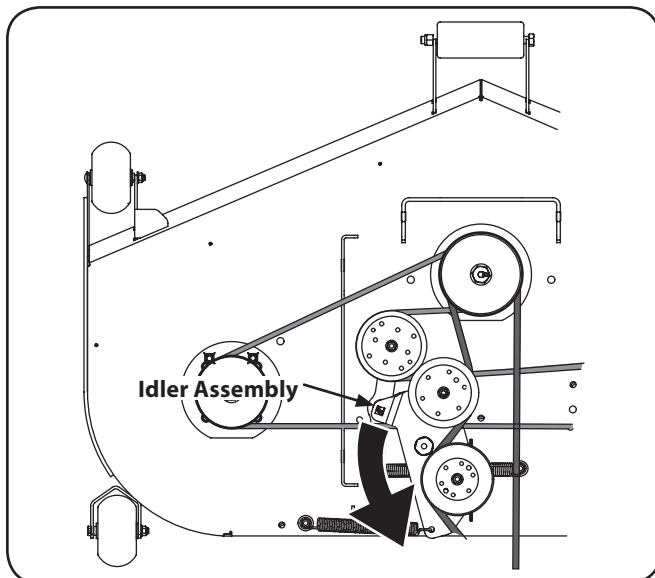
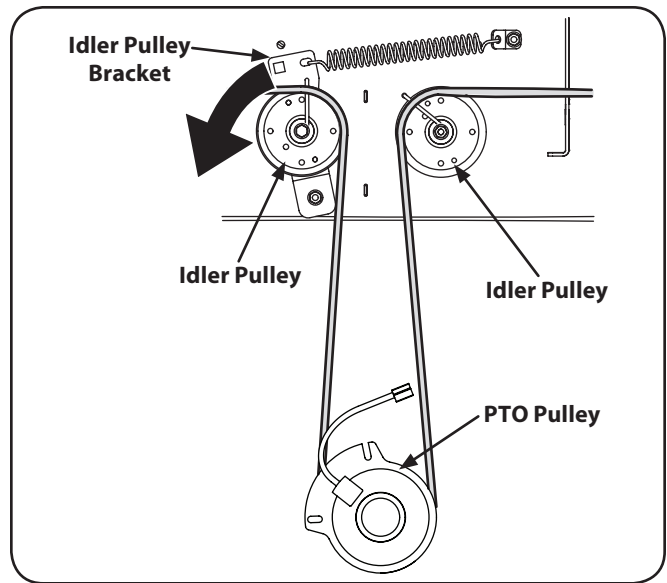

Figure 7-4
Figure 7-5
4. Using a 1/2" drive in the idler assembly turn the wrench towards the back of the tractor and slide the belt off the PTO pulley. See Figure 7-4 for the Z-Force S60 and Figure 7-5 for the Z-Force S48.